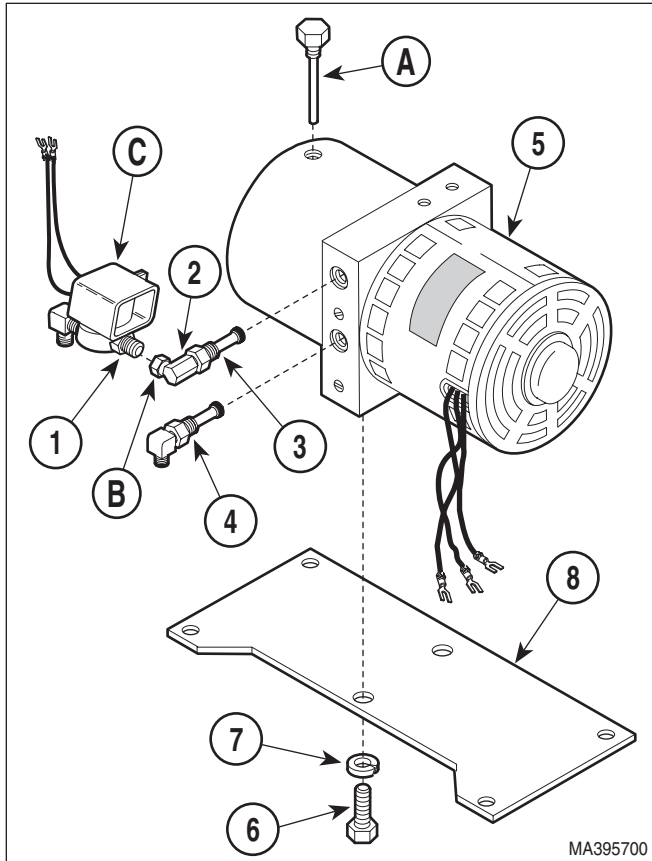

Figure 4-9. Motor Pump Removal / Installation
- (1) Unplug table power cord from outlet.
- (2) Remove motor pump assembly - Complete (Refer to para 4.9).
- (3) Remove filler cap (A) and drain any remaining oil into drain pan (See Figure 4-9).
- (4) Using a wrench to hold male connector (1, Figure 4-9) stationary, loosen jam nut (B) of elbow (2). Disconnect male connector/anti-cavitation solenoid valve (C) from elbow.
- (5) Remove down functions shuttle valve (3) and up functions shuttle valve (4) from motor pump (5).
- (6) Remove two screws (6), lockwashers (7), and motor base (8) from motor pump (5).